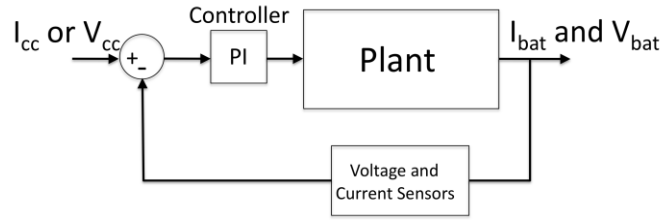
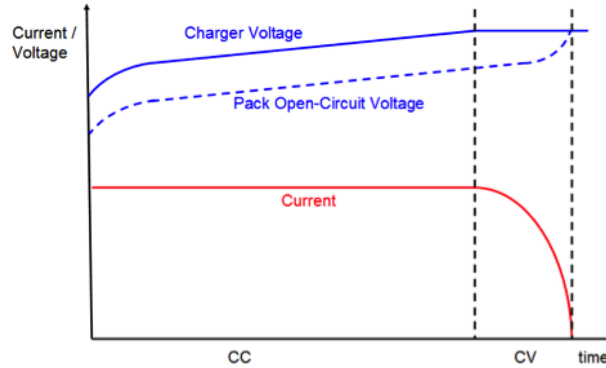

Figure 21: Proportional-Integration (PI) controller used to regulate the energy going to the charged battery.
Figure 22: Example of a CC/CV charging profile. The charger voltage and pack open-circuit voltage differ due to the internal resistance of the pack itself.
Typically the current limit is reached first, thus the charger goes into a constant current mode (called “CC” mode) where the maximum current is maintained. During the CC mode, the voltage on the battery will slowly increase as the battery is charged. When the maximum voltage has been reached, the charger will maintain that constant voltage (“CV” mode) while the current slowly decreases to zero. This type of charging is called CC-CV charging (see Figure 22).
As the Duty Cycle is increased, effectively more energy is transferred. When charging batteries, it is common to adjust the Duty Cycle to initially maintain a constant electrical current flowing into the batteries (i.e. Constant Current (CC) mode). Thus the microcontroller is programmed with a PI-feedback loop that uses a sensor to measure the electrical current, and then adjusts the Duty Cycle to maintain a prescribed value of electrical current (Figure 21). Once the voltage on the battery reaches a maximum value (V_{max}), the feedback loop begins adjusting the Duty Cycle so that a constant voltage is maintained. This is referred to as the Constant Voltage (CV) mode (Figure 22).